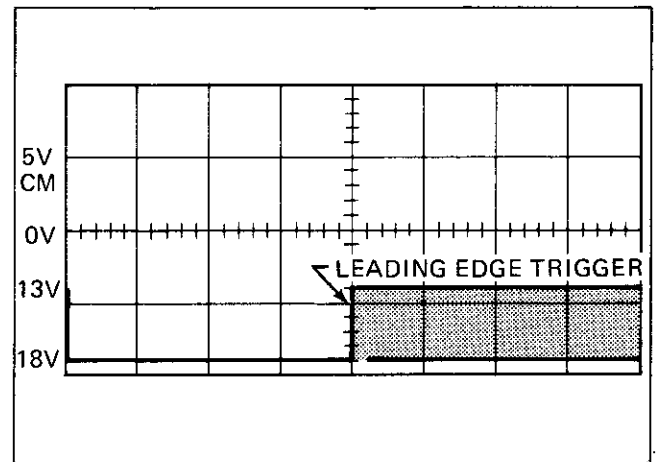

Figure 4-4. TP17 Compare Signal
2. The scope presentation shown in Figure 4-4 represents the proper compare signal for an 8810A input of +1 volt dc.